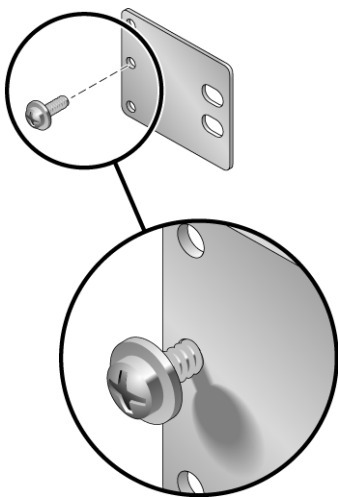

FIGURE 4-5 Installing a Screw on the Middle Rack Position on the Rear Plate
- a. Using one $M5 \times 10$ SEM screw for each rear plate, loosely install the screw in one of the three positions on the rear plate (FIGURE 4-5).
The position varies depending on the thickness of the rail in the rack. For example, FIGURE 4-5 shows where you would install the screw for the middle rack position on the rear plate.